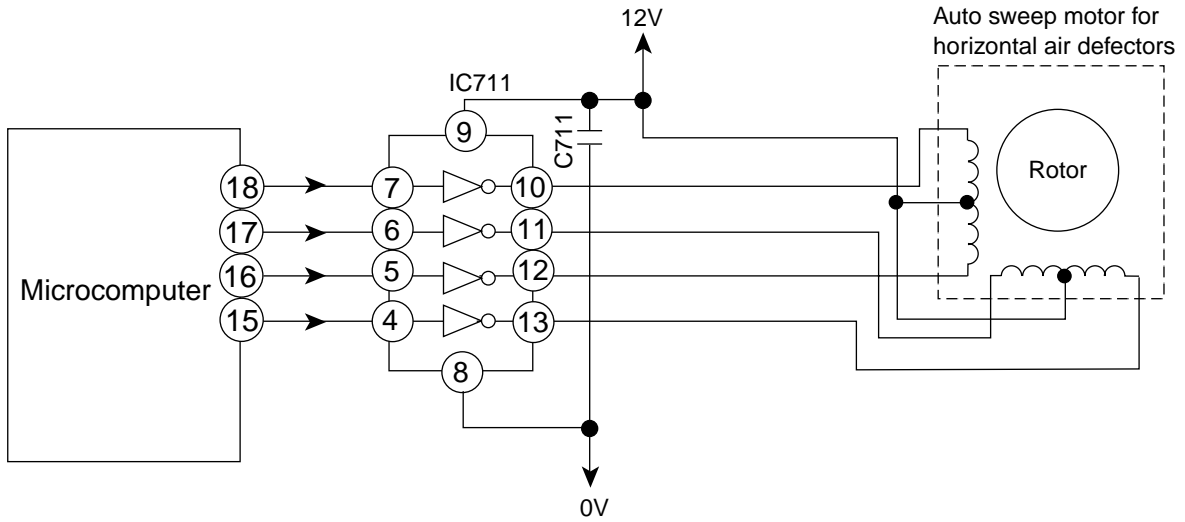

Fig.4-1
- Fig. 4-1 shows the Auto sweep motor drive circuit; the signals shown in Fig.4-2 are output from pins 15 – 18 of microcomputer.